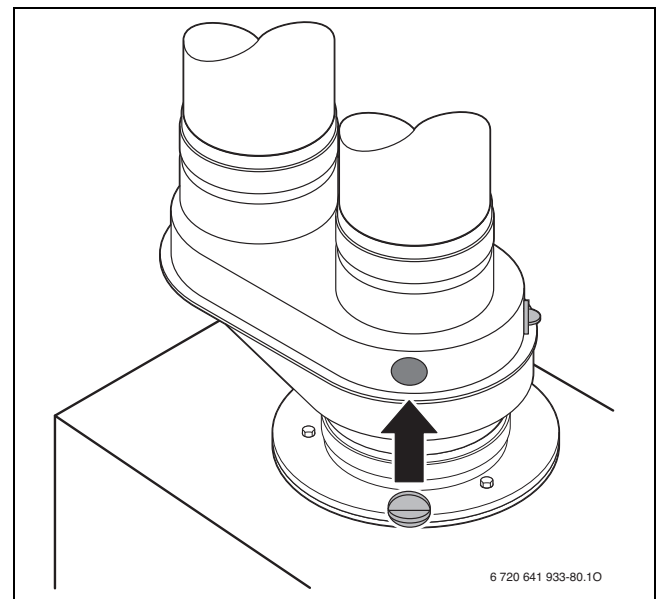

Fig. 64 Close flue gas test ports
- ▶ Remove the flue gas probe and seal the flue gas test port properly (→ Fig. 64).